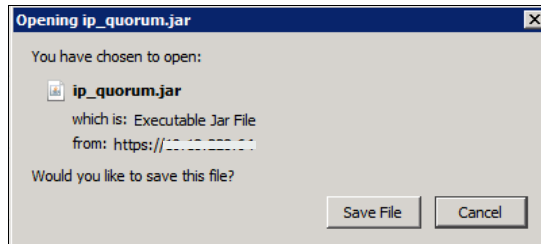

Figure 7-62 IP Quorum Java Application
2. Click **Download IPv4 Application** and the FS9100 generates an IP Quorum Java application as shown in Figure 7-62 on page 281. The application can be saved and installed in a host that is to run the IP quorum application.